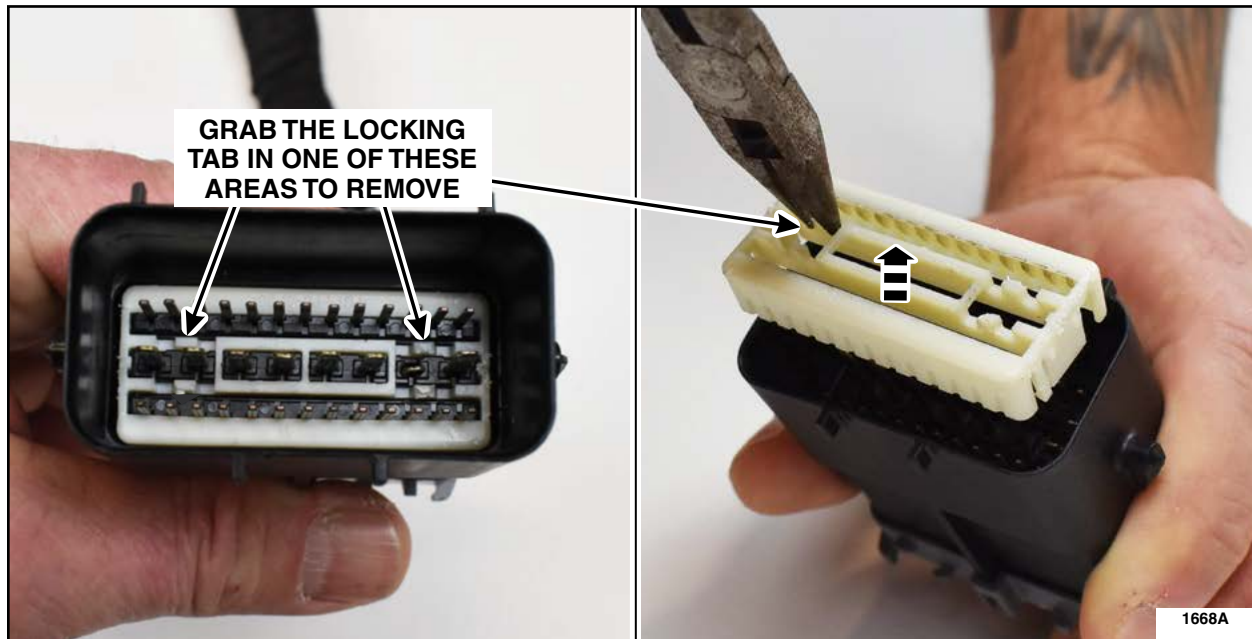

FIGURE 22
2. Using a small pair of needle nose pliers, or an equivalent tool, remove the white pin terminal locking tab from the original/damaged connector hard shell. See Figure 22.